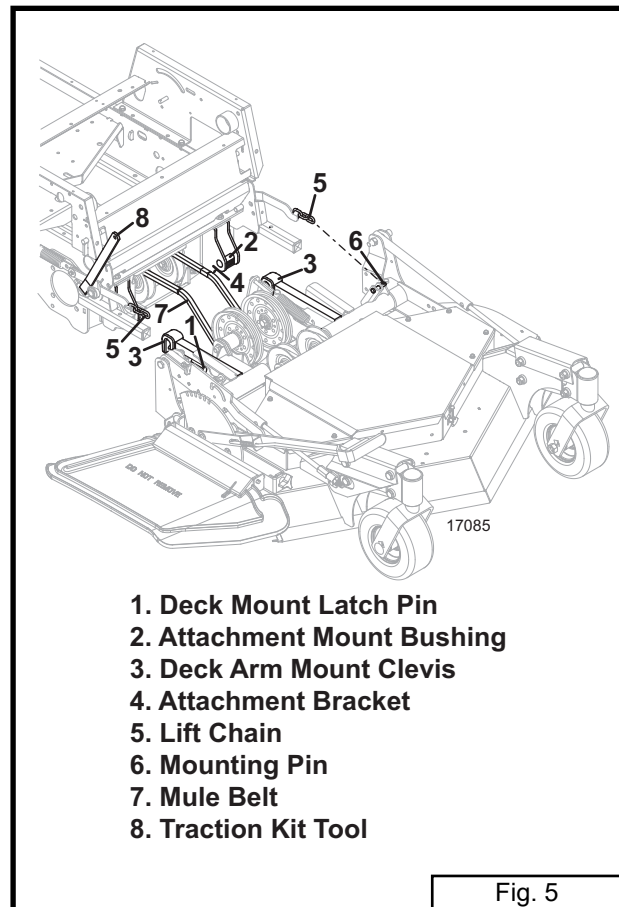

Fig. 5
(Refer to Fig. 5)
- For tractors equipped with PowerFold® Deck refer to Fig. 5 on page 20 and follow steps below: